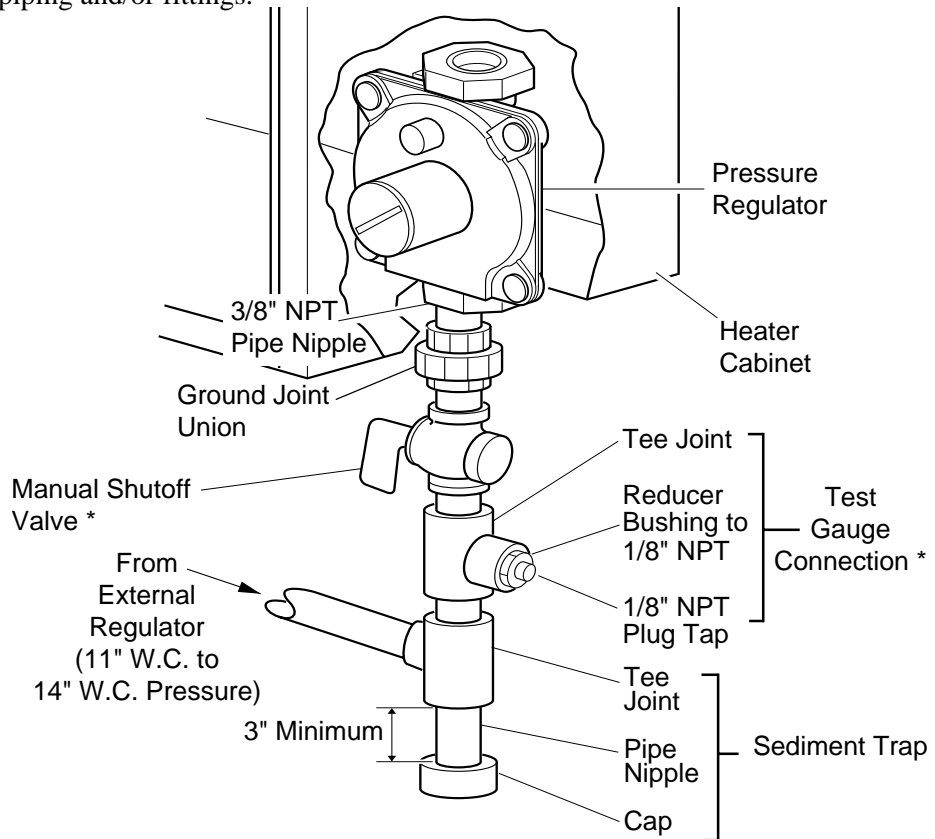

Figure 11 - Gas Connection
- test gauge connection * (see Figure 11, page 10)
Installation must include a manual shutoff valve, ground joint union, and plugged 1/8" NPT tap. Locate NPT tap within reach for test gauge hook up. NPT tap must be upstream from heater (see Figure 11, page 10).
Install sediment trap in supply line as shown in Figure 11. Locate sediment trap where it is within reach for cleaning. Locate sediment trap where trapped matter is not likely to freeze. A sediment trap traps moisture and contaminants. This keeps them from going into heater controls. If sediment trap is not installed or is installed wrong, heater may not run properly.